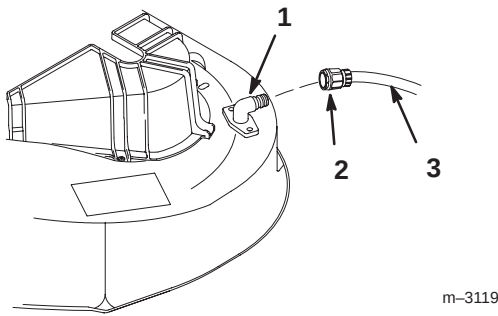

Figure 29
2. Attach a hose coupling to the end of the mower washout fitting and turn the water on high (Fig. 29).